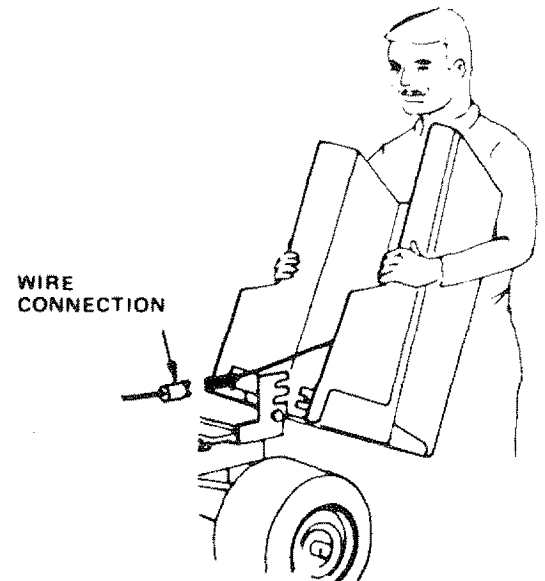

FIGURE 36
- Lift hood. Disconnect headlight wiring connection (Fig. 36).
- Pivot hood and side panel forward and lift off tractor (Fig. 36).